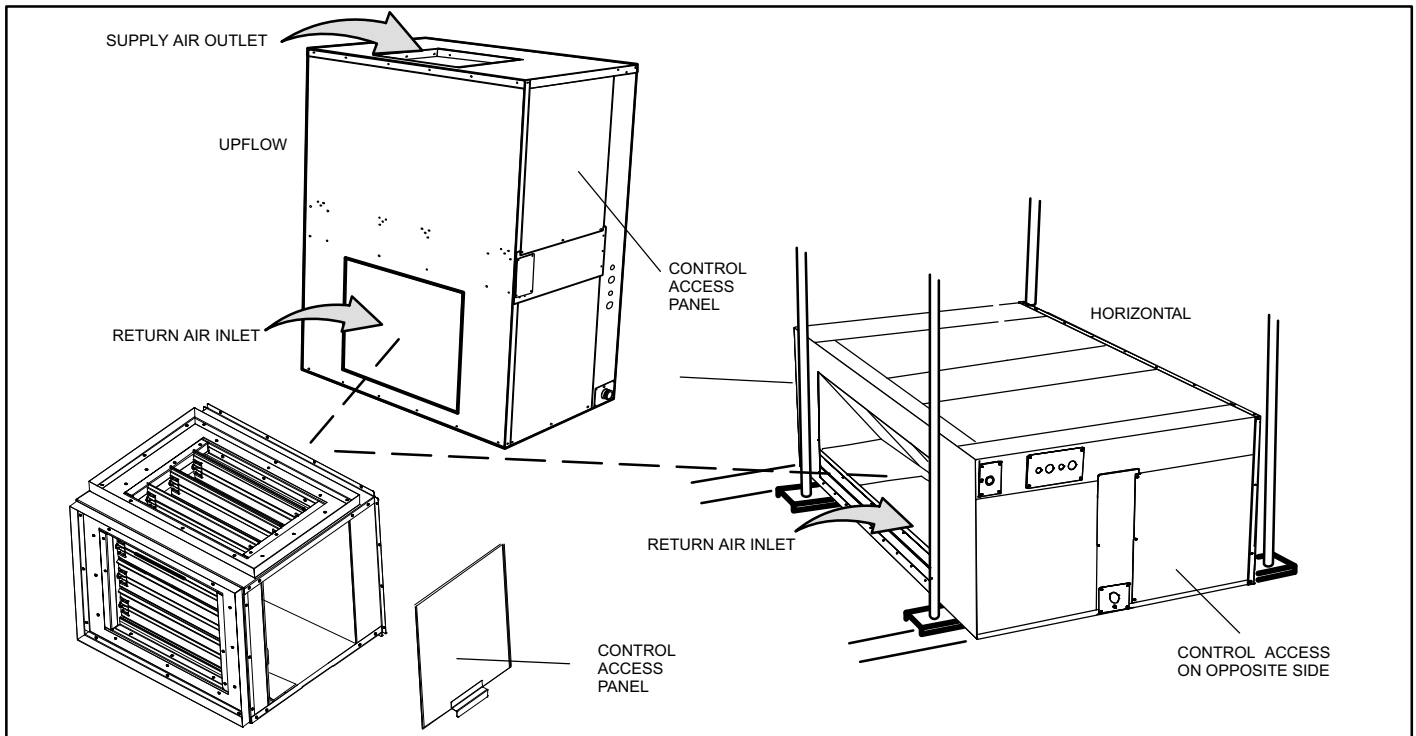

Figure 2. Upflow and Horizontal Applications
3. Attach economizer over return air opening with screws provided (figure 2).